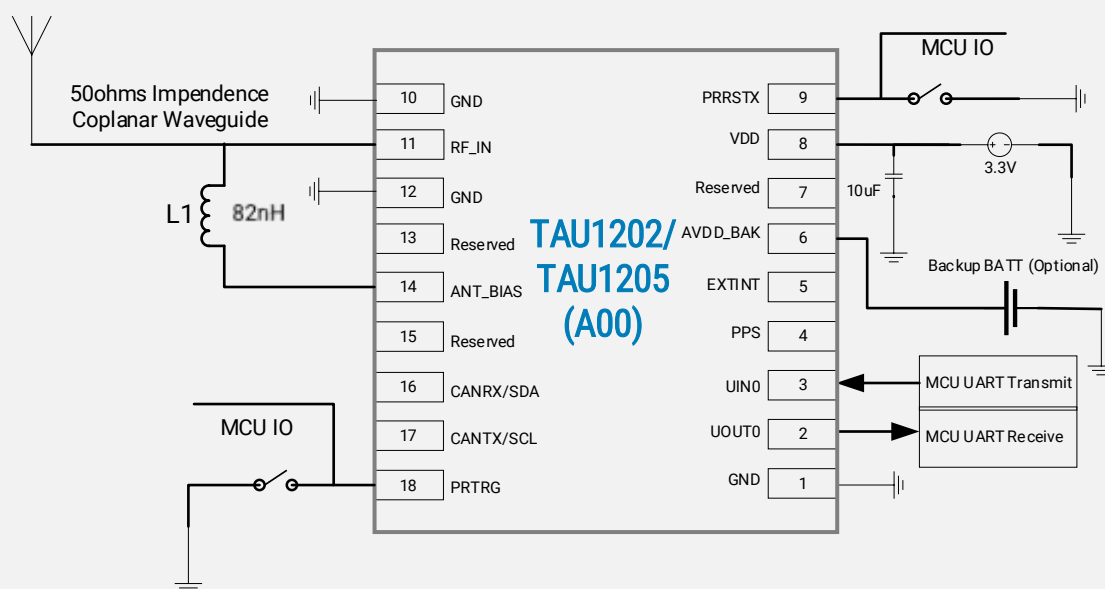

Figure 7 Minimal application diagram of A00 with internal power for ANT
- In A00 design, RF_IN pin does not provide the power for active antenna, so a bias choke of 82nH from ANT_BIAS to RF_IN pin should be used. (Refer to **Figure 7**)